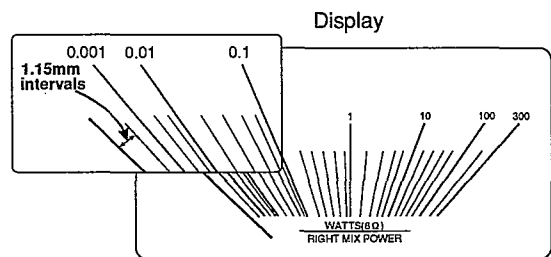

Fig. 1
1. Confirm the meter indicators, as shown in Fig. 1.